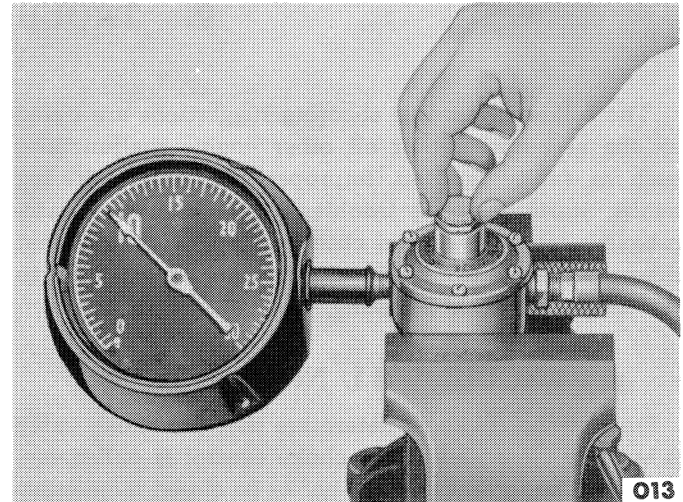

Figure 25—Vaporizer Pressure Adjustment
1. Place the assembly in a vise or suitable clamp and secure an air hose which will apply approximately 75 psi to the inlet connection, Figure 25.